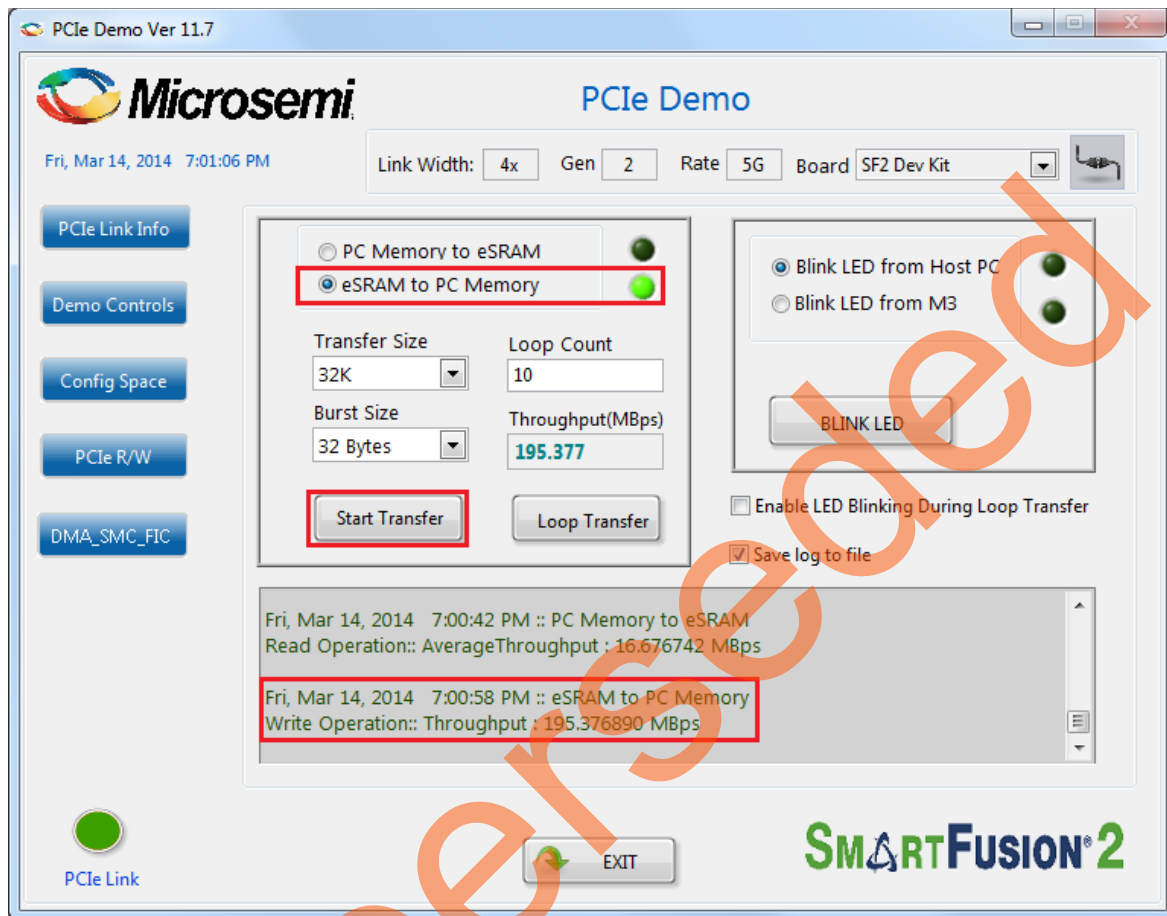

Figure 28 • Throughput in the DMA Transactions from eSRAM to the Host PC
20. Select the type of DMA transfer as eSRAM to PC Memory and select 32K Transfer Size. Click **Start Transfer** to perform a single DMA transaction. After completion of data transfer, the throughput is displayed. Figure 28 shows the throughput in the DMA transactions from eSRAM to the Host PC.